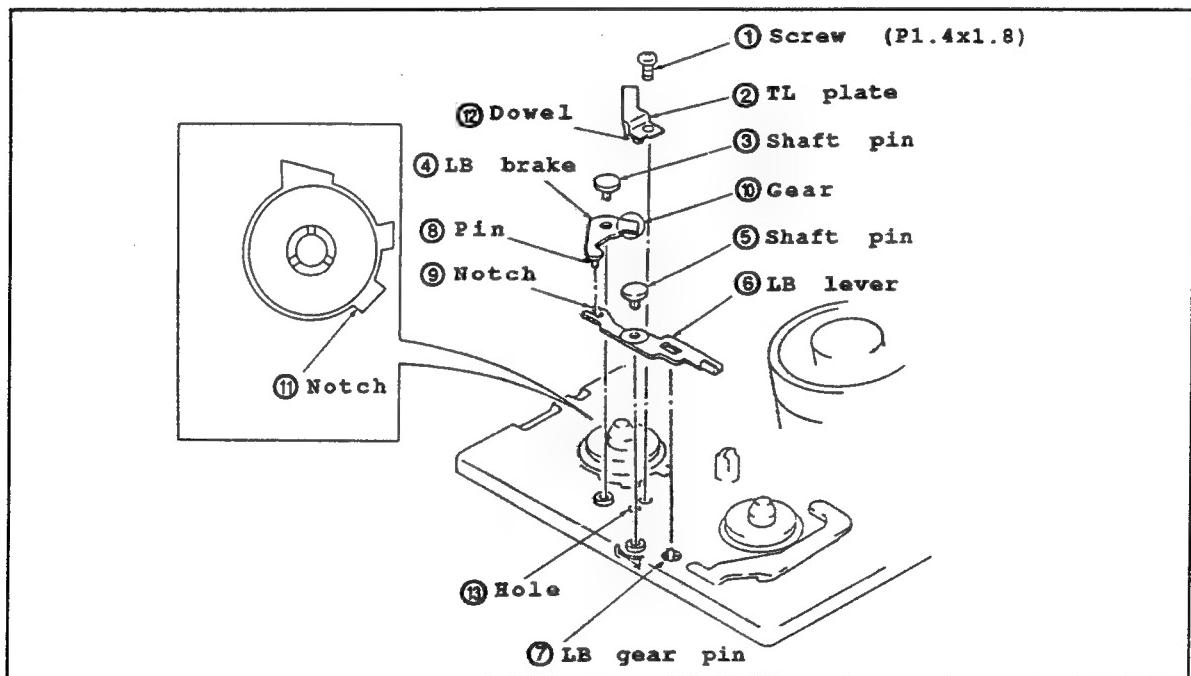

Fig.III-11
- (1) To take off the TL plate ②, remove the screw ①.
- (2) To take off the LB brake ④, remove the shaft pin ③.
- (3) To take off the LB lever ⑥, remove the shaft pin ⑤.
*Note: If the claw part of shaft pin ③ and ⑤ damaged, replace them.
• Reassembling (Fig.III-11)
- (1) Assemble the LB lever ⑥ while inserting the LB gear pin ⑦ to the hole of LB lever ⑥. Then, secure it with the shaft pin ⑤.
- (2) Assemble the LB brake ④ while inserting the pin ⑧ to the notch ⑨ of LB lever ⑥ and the gear ⑩ to the notch ⑪.
- (3) Install the shaft pin ③.
- (4) Assemble TL plate ② while aligning the dowel ⑫ and the hole ⑬. Then, secure it with the screw ①.